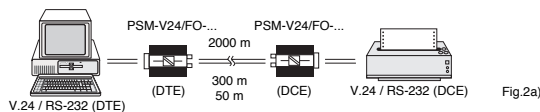

Fig. 2a
• **Bridging long distances between two V.24 interfaces of up to 2000 m** with glass fiber cables (300 m with HCS fiber, 50 m with polymer fiber) (Fig. 2a).